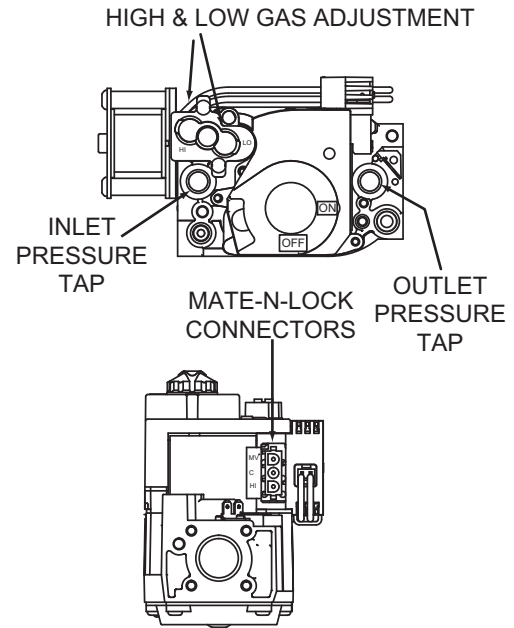

Figure 33: Typical Gas Valve
4. Turn gas valve clockwise to "OFF" position (See Figure 33).
This gas furnace has two heat stages. Therefore, the gas valve has two adjustment screws located under a plastic protective cover. The second stage (100% input) adjustment screw is adjacent to the "HI" marking on the valve and the first stage (60% input) adjustment screw is located adjacent to the "LO" marking on the valve (See Figure 33).